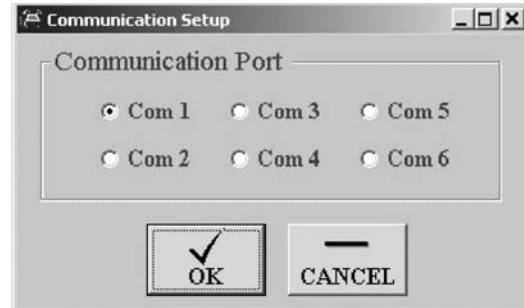

Figure C-1. Communications Setup
- The Communication Setup screen appears (FIGURE C-1).
- Typically, the port will be "Com 1" (FIGURE C-1).